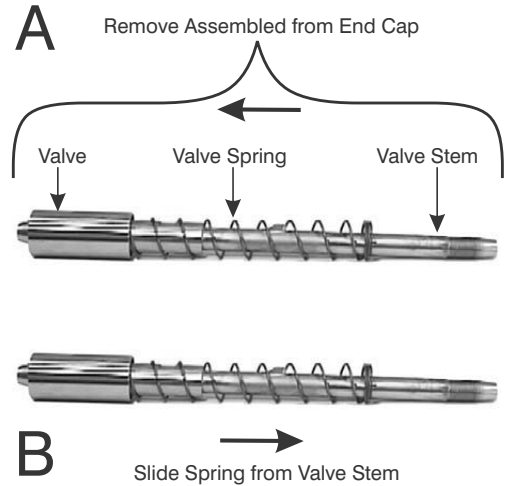

Figure 8-12. Valve Stem Components Removed from End Cap.
5. Holding Spring (6) and Valve (3) in one hand, pull the Valve Stem (5) and its assembled components out of the Valve Guide (7). See Figure 8-12-A.
6. Slide the Spring (6) from the Valve Stem (5). See Figure 8-12-B.